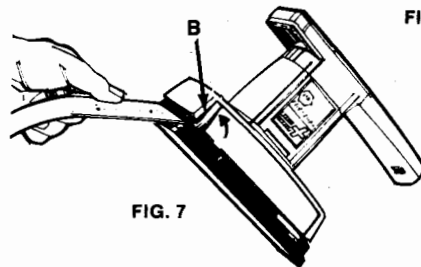

FIG. 7
2. Position Sander as shown in Figure 7. Open paper clamp by moving lever "B" in direction of arrow. Insert paper into clamp, aligning paper sides even and parallel with the sides of the platen. Return lever to original position to clamp the paper.